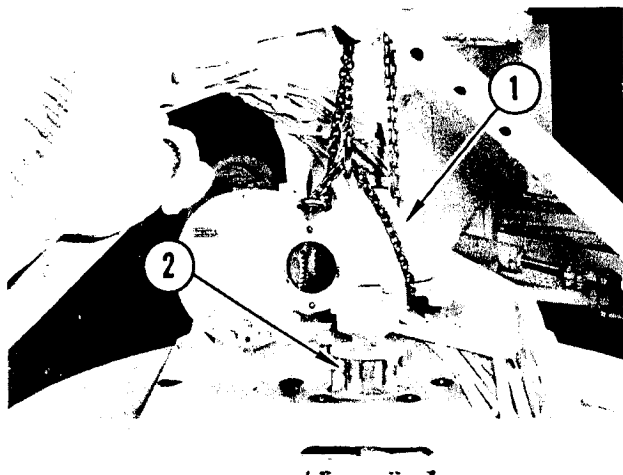

FIGURE 13. GEAR HOUSING REMOVAL
Attach sling and hoist to gear housing (1) and lift assembly from drawbar, Figure 13. As housing is lifted, tilt top of housing toward front of grader to get pinion (2) clear of circle gear.